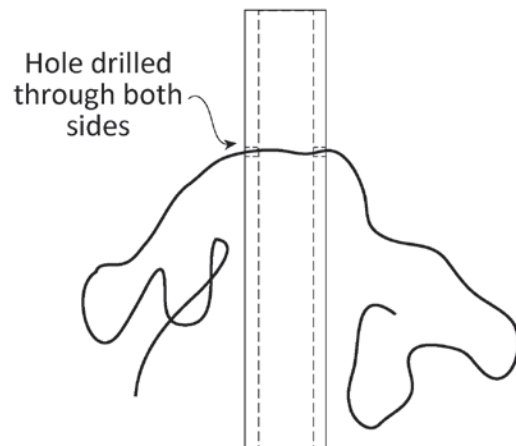

Figure 3: Thread cord through barrel
8. To assemble the shooter, thread the elastic chord through the PVC pipe. (See figure 3) Leave plenty of extra length on both ends of the chord. It may help you thread the cord through the holes if you trim and tape the end to avoid frayed ends.